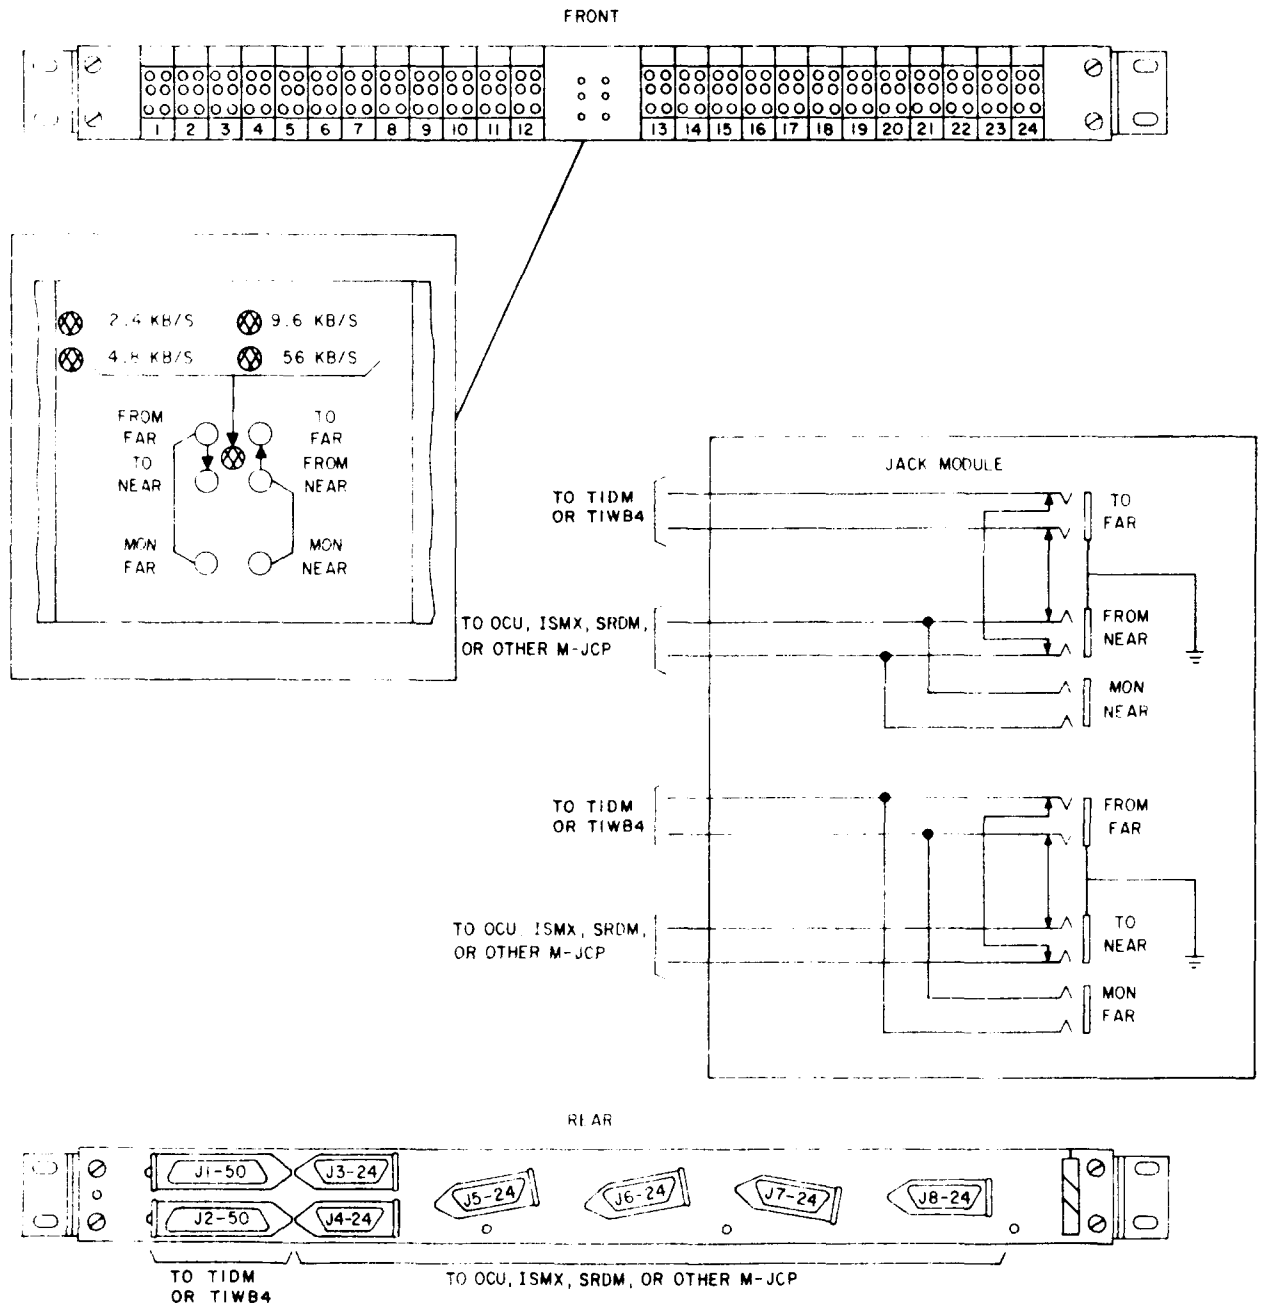
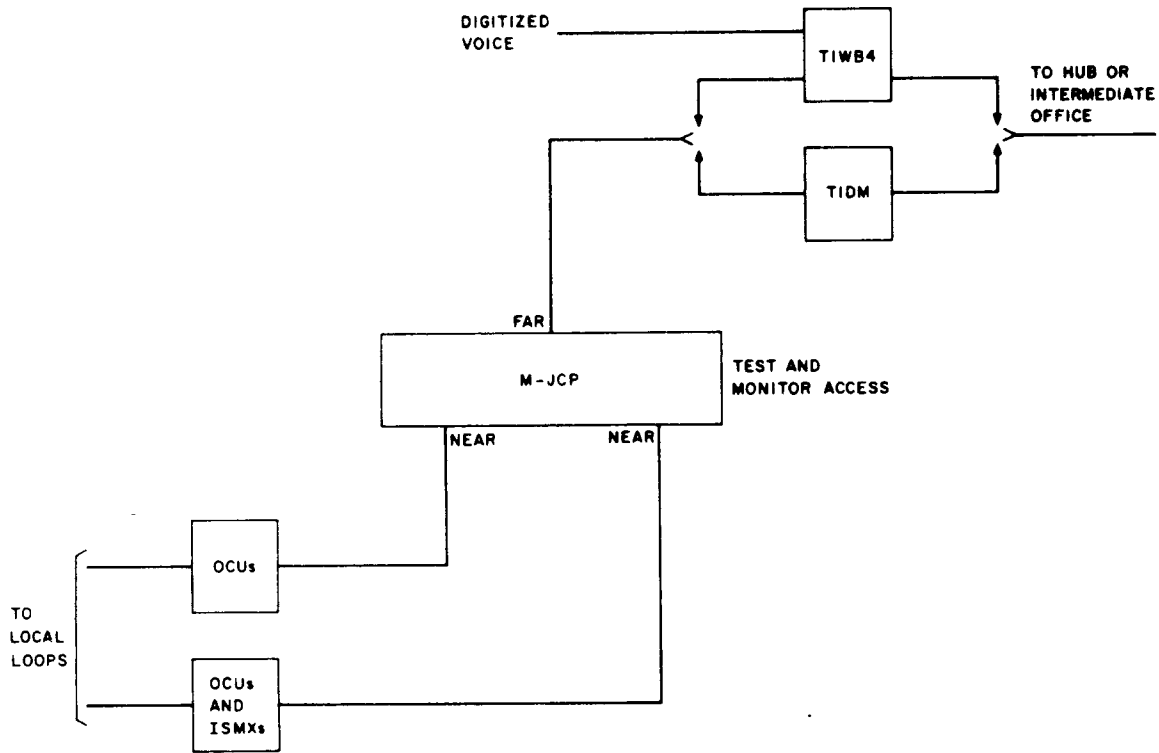
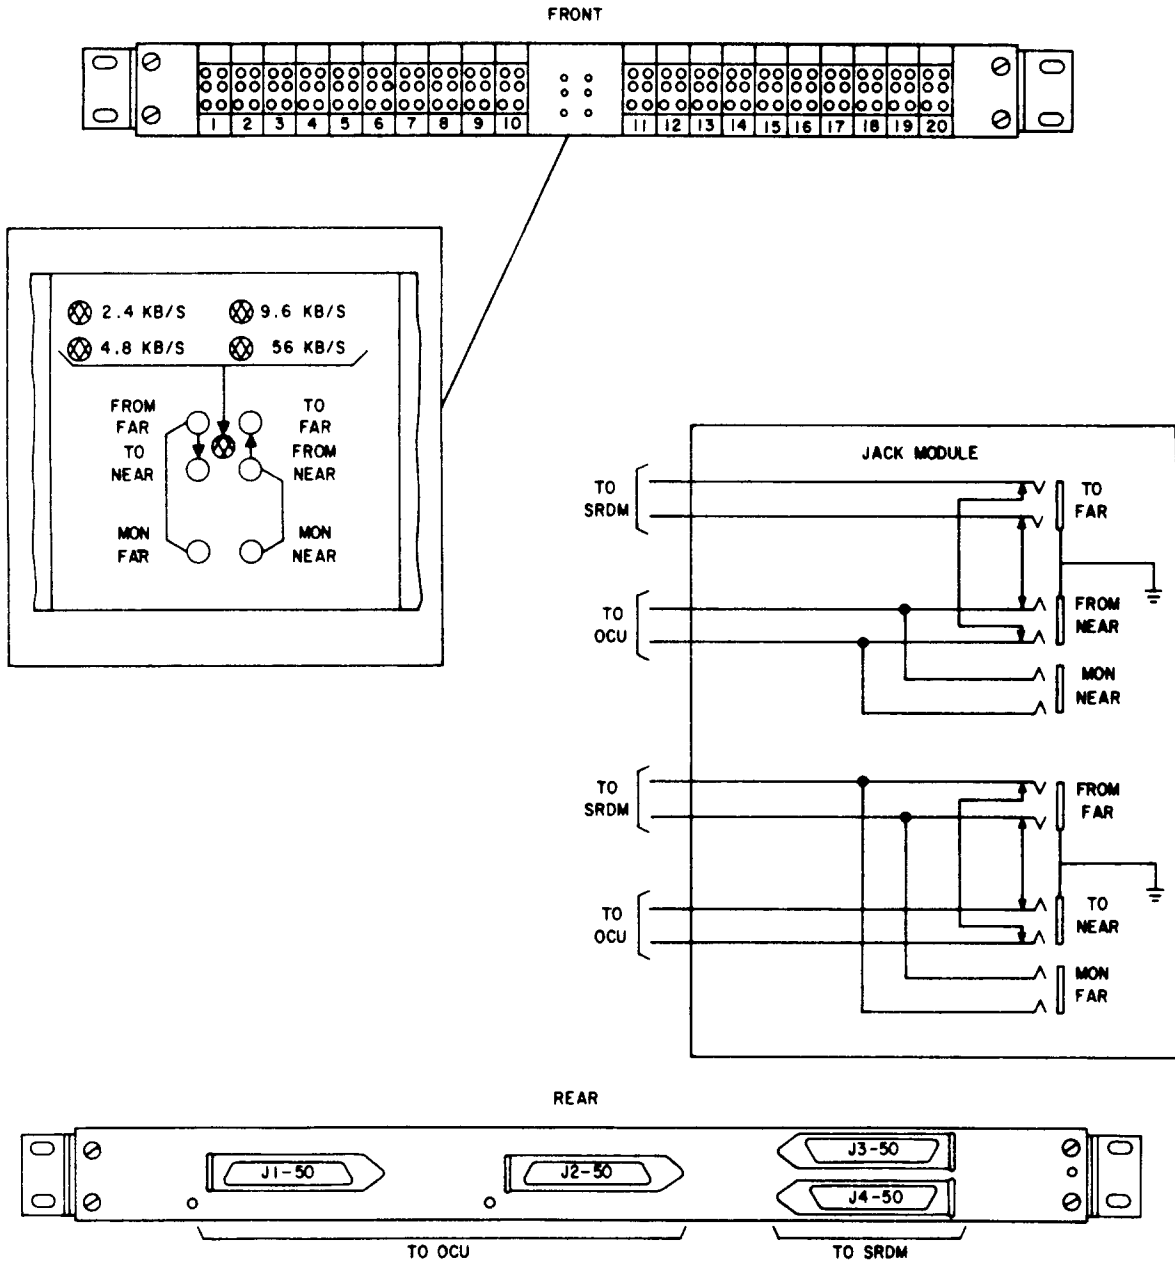

Fig. 1—Multiplexer Jack and Connector Panel
Fig. 2—Example of Local Office Arrangement Using M-JCP
Fig. 4—Substrate Data Multiplexer Jack and Connector Panel
**1.05** The M-JCP (Fig. 1) provides jacks for test and monitor access to 24 individual 64-kb/s (DS-0) data channels. Electrically the M-JCP is located between a T1 data multiplexer (T1DM) or one or two T1WB4s and office channel units (OCUs), 5- or 10-channel integral subrate multiplexers (ISMxs), or subrate data multiplexers (SRDMs), as shown in Fig. 2 and 3. The T1DM or T1WB4s (referred to as the FAR equipment) are connected to the M-JCP by means of two 50-pin connectors located on the rear of the M-JCP. The OCUs, ISMxs, or SRDMs are connected to the M-JCP by means of six 24-pin connectors (four DS-0 channels for each connector) located on the rear of the M-JCP. The equipment connected to these connectors is referred to as the NEAR equipment.
**1.06** The SM-JCP (Fig. 4) provides jacks for test and monitor access to 20 individual 64-kb/s (DS-0) data channels. Electrically the SM-JCP is located between the OCUs and SRDMs in the local office. The OCUs and the SRDMs are referred to as the NEAR and FAR equipment, respectively. Connections from the equipment through the SM-JCP are made at the rear of the panel by means of four 50-pin connectors.
equipment bay (see Table A). A KS-21042, L1 jack panel containing two groups of ten jack modules is mounted on the front of the SM-JCP (Fig. 4). Each jack module is numbered from 1 to 20 consecutively. At the rear of the SM-JCP are two 50-pin connectors, J3 and J4, for SRDM connection and two 50-pin connectors, J1 and J2, for OCU connection. A KS-21042, L2 jack panel containing two groups of 12 jack modules is mounted on the front of the M-JCP (Fig. 1). Each jack module is numbered from 1 to 24 consecutively. At the rear of the M-JCP are two 50-pin connectors, J1 and J2, for T1DM or T1WB4 connection and six 24-pin connectors, J3 through J8, for connection of the OCU, ISMX, SRDM, or other M-JCP, depending on the bay configuration. In both the SM-JCP and the M-JCP, the internal wiring is complete except for the KS-13385, stranded, 16 AWG, signal ground bus at the rear of the unit, which must be connected to the bay signal ground bus.